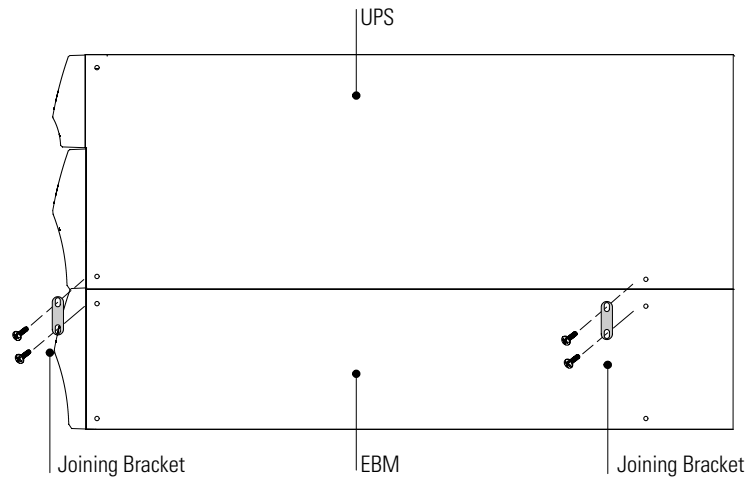

Figure 8. Installing the Joining Brackets (Top View)
6. Align each joining bracket with the adjacent cabinet screw holes and secure with the supplied screws (see Figure 8).